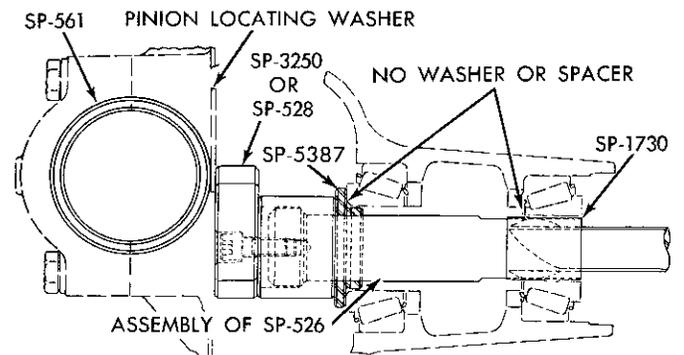

Fig. 26—Tool C-758-D4 Installed in Housing
(1) Assemble spacer SP-5387 to main section of tool followed by spacer SP-1730. Install rear pinion bearing cone over spacer SP-1730 and against spacer SP-5387 (Fig. 26).
(2) Insert assembly into carrier and install front pinion bearing cone over tool shaft and in its proper